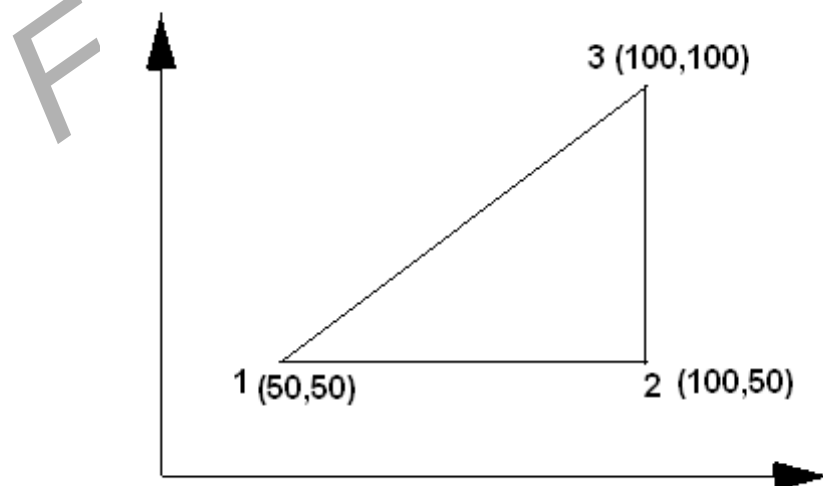

Figure 6
6. For the plane strain element shown in figure 6. the nodal displacements are given as